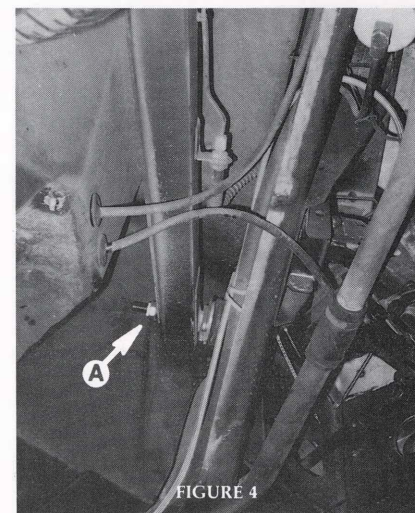

FIGURE 4
4) Torque trailing arm pivot bolt "A" to 75 NM (55 ft. lbs.). (See Fig. 4)